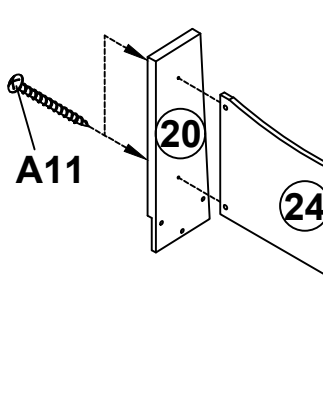

Fig 14B
24. Attach the Leg Panel(#24) to the Leg-B(#22 & #23) using four Screws(A11) per Leg Panel (#24) .See FIG.14B.